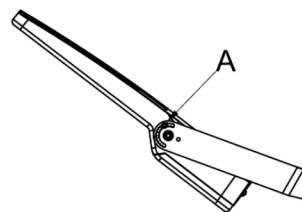

Fig. 3
3. Adjust the Angle you want by using the screws at A on both sides, as shown in Fig. 3